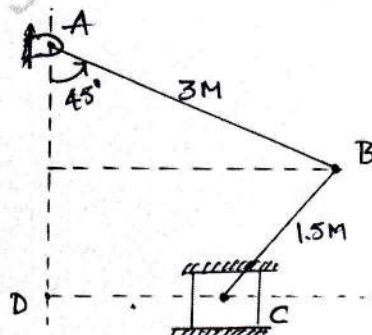

Fig.Q4(b)
- b. In the mechanism shown in Fig.Q4(b), the slider C is moving to the right with a velocity of 1 m/s and an acceleration of 2.5 m/s^2 . The dimensions of various links are $AB = 3$ m inclined at 45° with the vertical and $BC = 1.5$ m inclined at 45° with the horizontal. Determine: